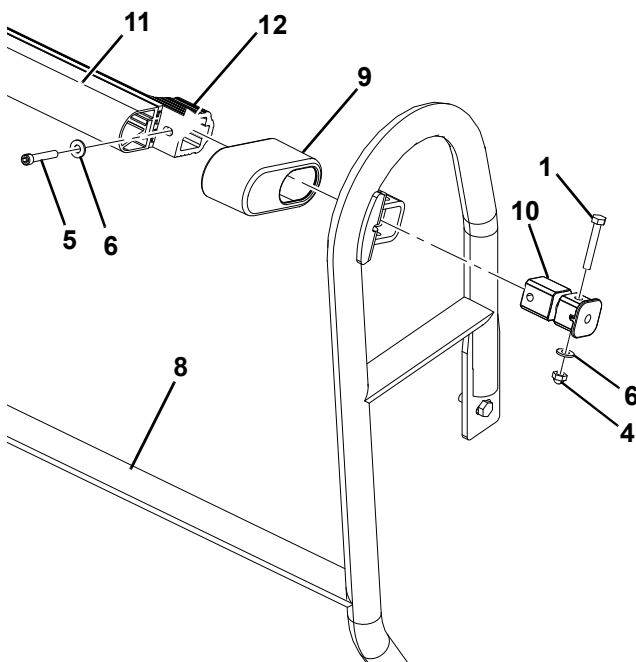

Figure 4-51.
5. Insert a Shear Block Support (10) through shear block housing on the SkyGuard support bracket and into the platform sensor mount. See Figure 4-51.
6. Secure the shear block on welded mount of SkyGuard support bracket using Bolt (1), relevant Washer (6) and Acorn Nut (4) as shown in Figure 4-51.
7. Secure the SkyGuard switch assembly using Bolt (5) and relevant Washer (6) on platform sensor mount. See Figure 4-51.
WHEN THE SKYGUARD IS PUSHED WITH EXCESSIVE FORCE THE SENSOR SUPPORTS (ITEM 10 - FIGURE 4-51.) WILL BREAK. REPLACE WITH NEW SENSOR SUPPORTS BEFORE CONTINUING OPERATION OF THE MACHINE.